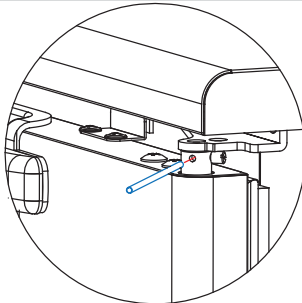

Fig 9-43
1. Insert the steel stick between the shaft holes. (Fig 9-43)